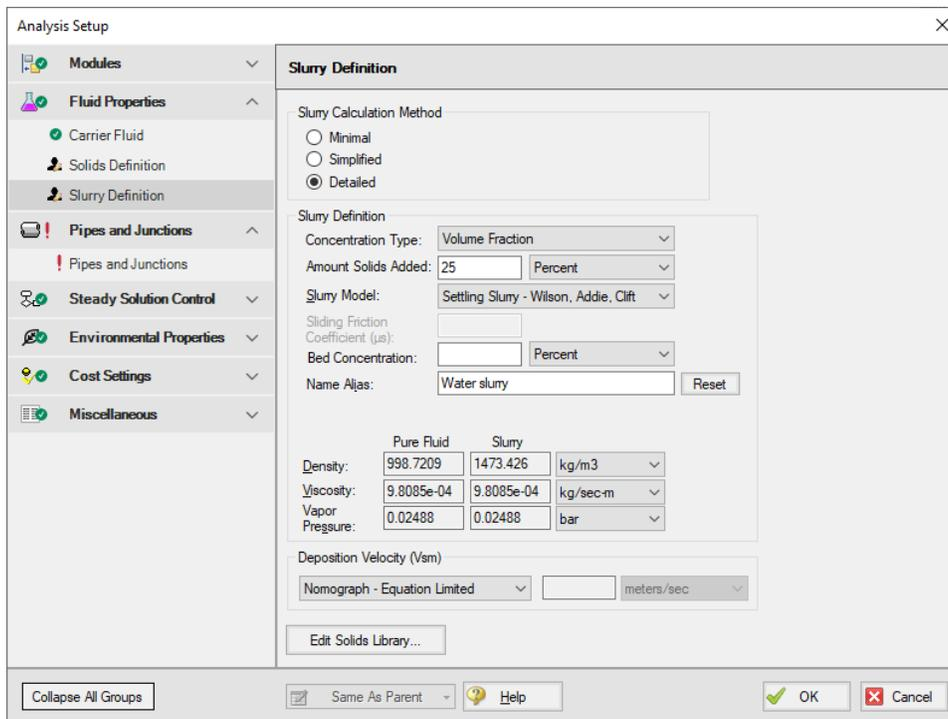

Figure 2: Slurry Definition panel in the Fluid Properties group in Analysis Setup with SSL activated
2. Slurry Definition (Figure 2)